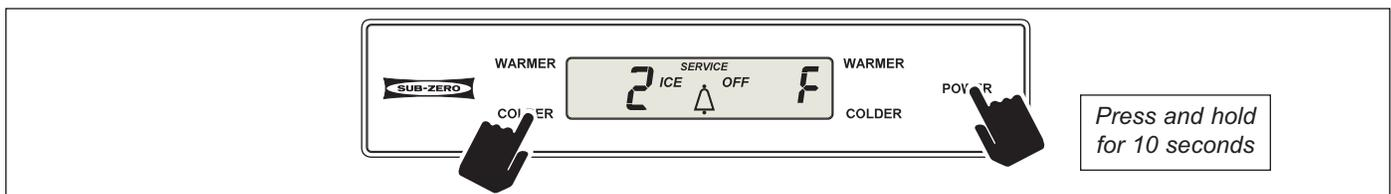

Figure 3-41. (Model UC-24C) Initiate Manual Component Activation Mode (Freezer Zone Shown) - Press and Hold Freezer COLDER Key and POWER Key for 10 Seconds
To initiate Manual Component Activation Mode the unit must be ON, then press and hold the desired COLDER key and the POWER key for ten (10) seconds (See Figures 3-41 and 3-42). All cooling functions for that zone will begin and the zone compartment temperature will be displayed in the left display area of the LCD, with the right display area showing the thermistor location.